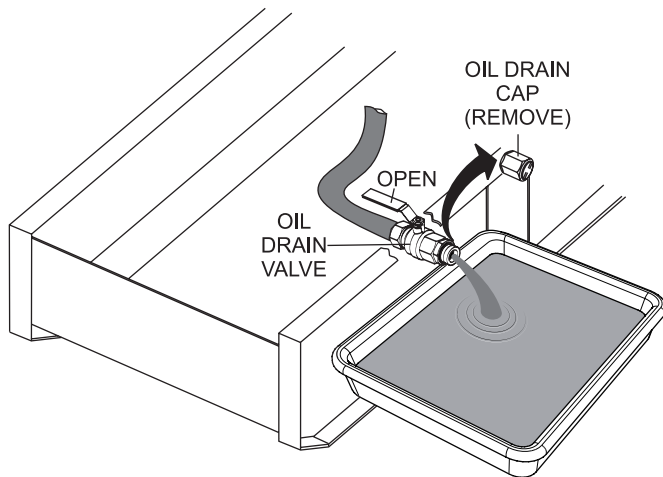

Figure 66. Draining Engine Oil
4. Remove the **oil drain cap** (Figure 66).
5. Place the **oil drain valve** in the open position (Figure 66) and allow the oil to drain into a suitable container.